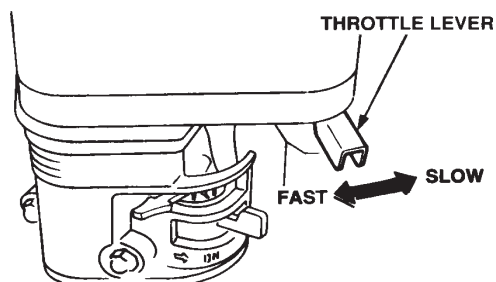

Figure 15. Throttle Lever (SLOW Position)
1. Move the throttle lever quickly to the **SLOW** position (Figure 15).
1. Place the **throttle lever** (Figure 15) in **SLOW** position, and listen for the engine speed to decrease.